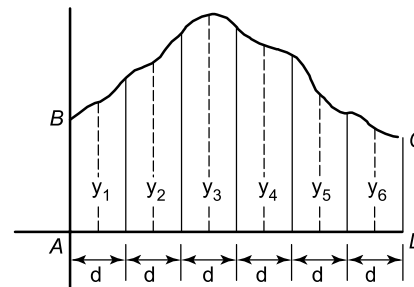

Figure 16.3
To determine the area *ABCD* of Figure 16.3 using the mid-ordinate rule:
- (ii) Erect ordinates in the middle of each interval (shown by broken lines in Figure 16.3)